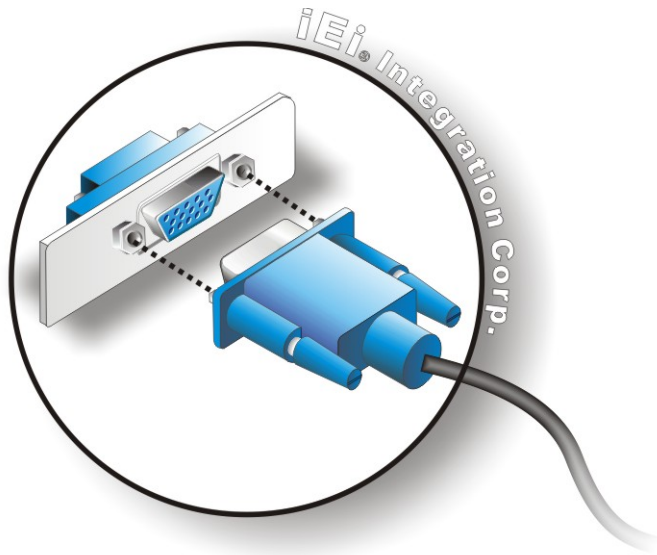

Figure 4-12: VGA Connector
- Step 3:** **Insert the VGA connector** Once the connectors are properly aligned with the insert the male connector from the VGA screen into the female connector on the NANO-SE-i1/KBN-i1/GLX. See **Figure 4-12**.